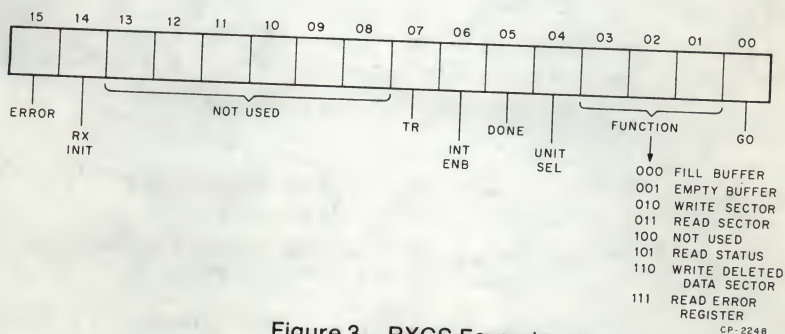

Figure 3 RXCS Format
**Control/Status Register (RXCS)(177170)** — The format for the RXCS register is shown in Figure 3. Bit descriptions are presented in Table 3. Loading the RXCS register while the RX01 is not busy and with bit 0 = 1 will initiate a function described in Table 3.